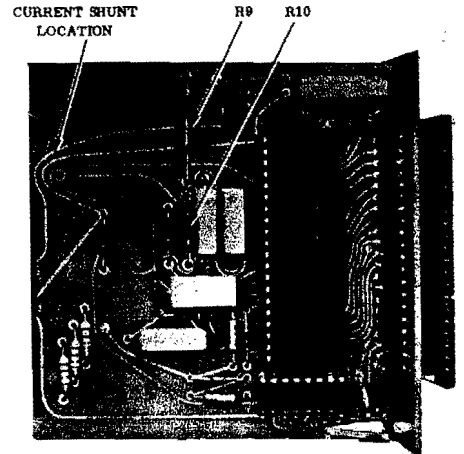

Figure 7. Component Location
- Install resistors specified in Table I to attain desired range. See figure 7 for component location. Note that these resistors (R9 and R10) plug into sockets in the lower board assembly. No soldering is required.
A shunt resistor may be plugged into the terminals shown in figure 7 (lower board) to per-